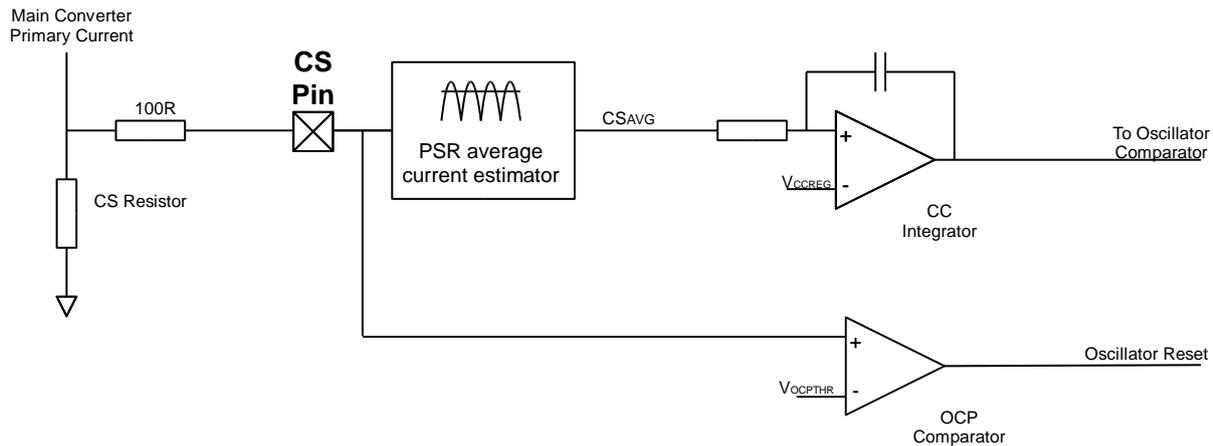

Figure 7: RED2501 Current protection and control circuits
Figure 7 shows the two current control methods used in the converter:
Shown in figure 7 the signal from the CS pin is divided into two different paths. The bottom path provides peak instantaneous over-current protection (OCP) while the PSR Average Current estimation block provides the current regulation (CC) information. The voltage on the CS pin is an AC signal biased around GND. Inside the PSR block this signal is processed to provide a voltage proportional to the average converter output current.
The CC regulation circuit is shown in Figure 7. CC operation is defined by an internally compensated control loop. This provides a system response time of approximately 300us in a typical application. The average current regulation point, V_{CCREG} is pre-set to 150 mV, referred to the CS pin.